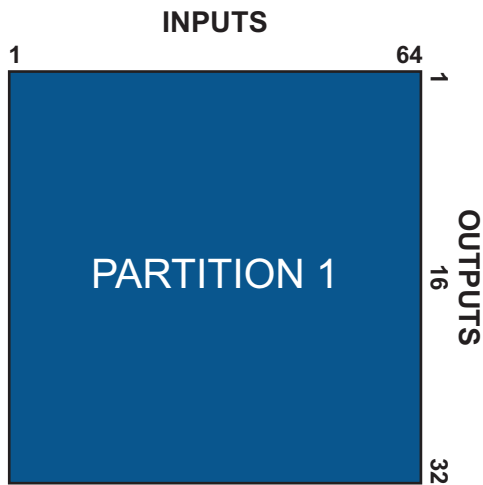
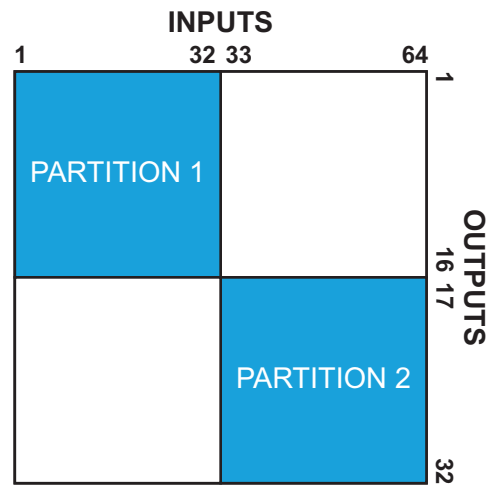

Figure 29 One Audio Mixer — 64x32
Figure 30 Two Audio Mixers — Each 32x16
**Figure 29** is an example of one audio mixer (one license) with 64 stereo inputs (128 channels) and 32 stereo outputs (64 channels). **Figure 30** is an example of partitioning to obtain two smaller independent ULTRIMIX-MXR I/O blocks. Each partition is stereo 32×16.